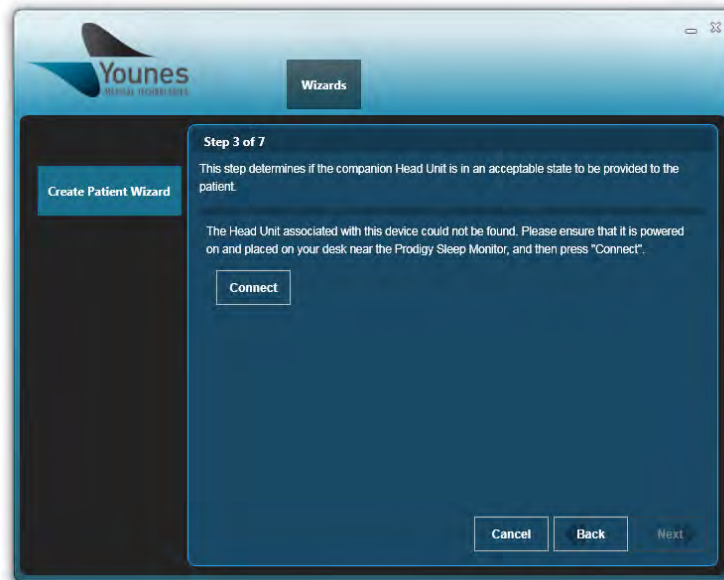

Figure 119 – Windows PC Prodigy Application Head Sensor Acceptable State Screen (Create Patient Wizard)
11. As instructed in Figure 119, power on the companion Head Sensor, then click the “Connect” button.